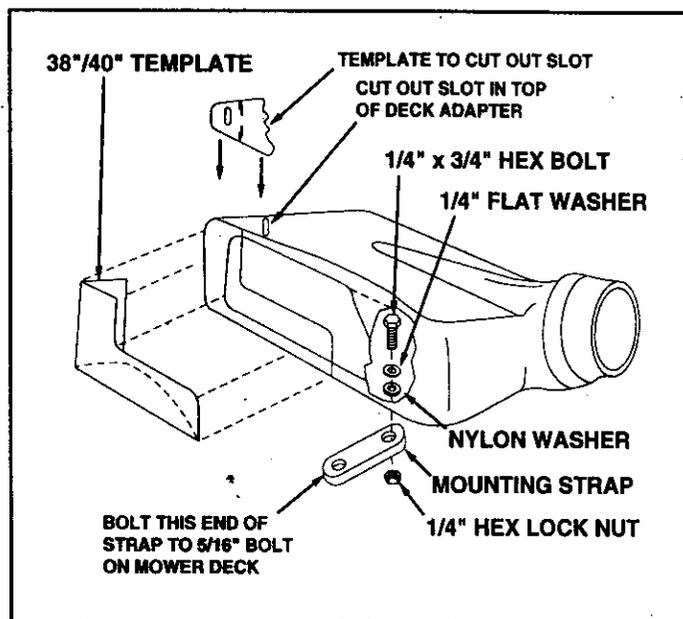

FIGURE 33
- Cut out two templates and place on deck adapter as shown in figure 33. Tape smaller one on top and larger one on the side and bottom. After they are in place, carefully mark around the templates, then cut out adapter to obtain correct opening.
- Bolt end of mounting strap to the 5/16" bolt on the mower deck. The other end of the strap will bolt to a hole in the deck adapter, which must be drilled. Position the adapter on the deck, then drill a 5/16" hole in the bottom of the adapter that will align with the hole in the strap. Fasten the adapter to the strap using one 1/4" x 3/4" hex bolt, 1/4" flat washer, nylon washer and 1/4" hex lock nut. See figure 33.